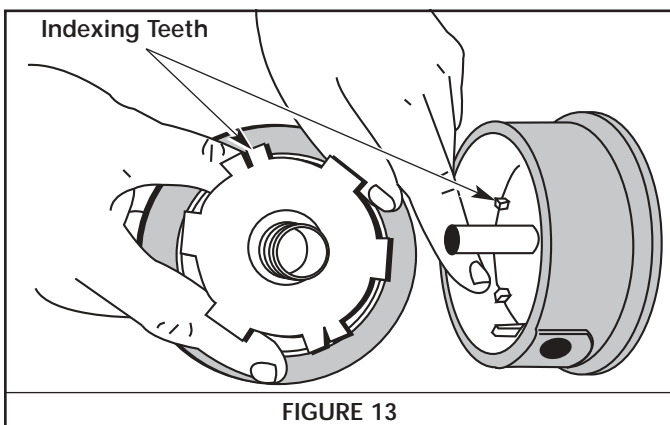

FIGURE 13
5. Check the indexing teeth on the inner reel and outer spool for wear. See Figure 13. If necessary, remove burrs or replace the reel and spool.